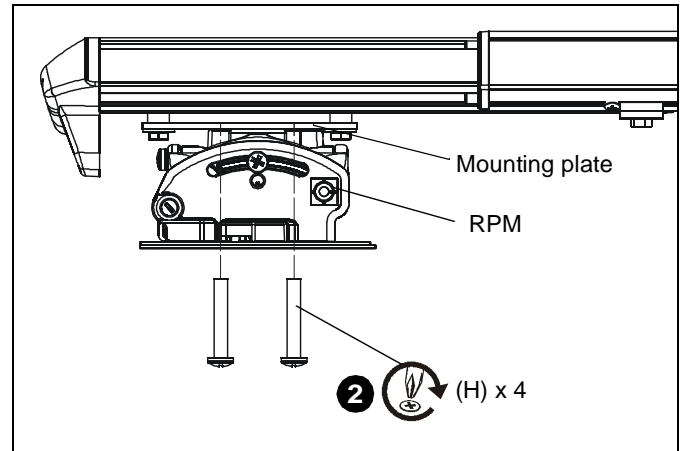

Figure 18
- Install four 1/4-20 x 1-1/2" Phillips pan machine screws (H) through RPM holes and into projector mounting plate. (See Figure 18)